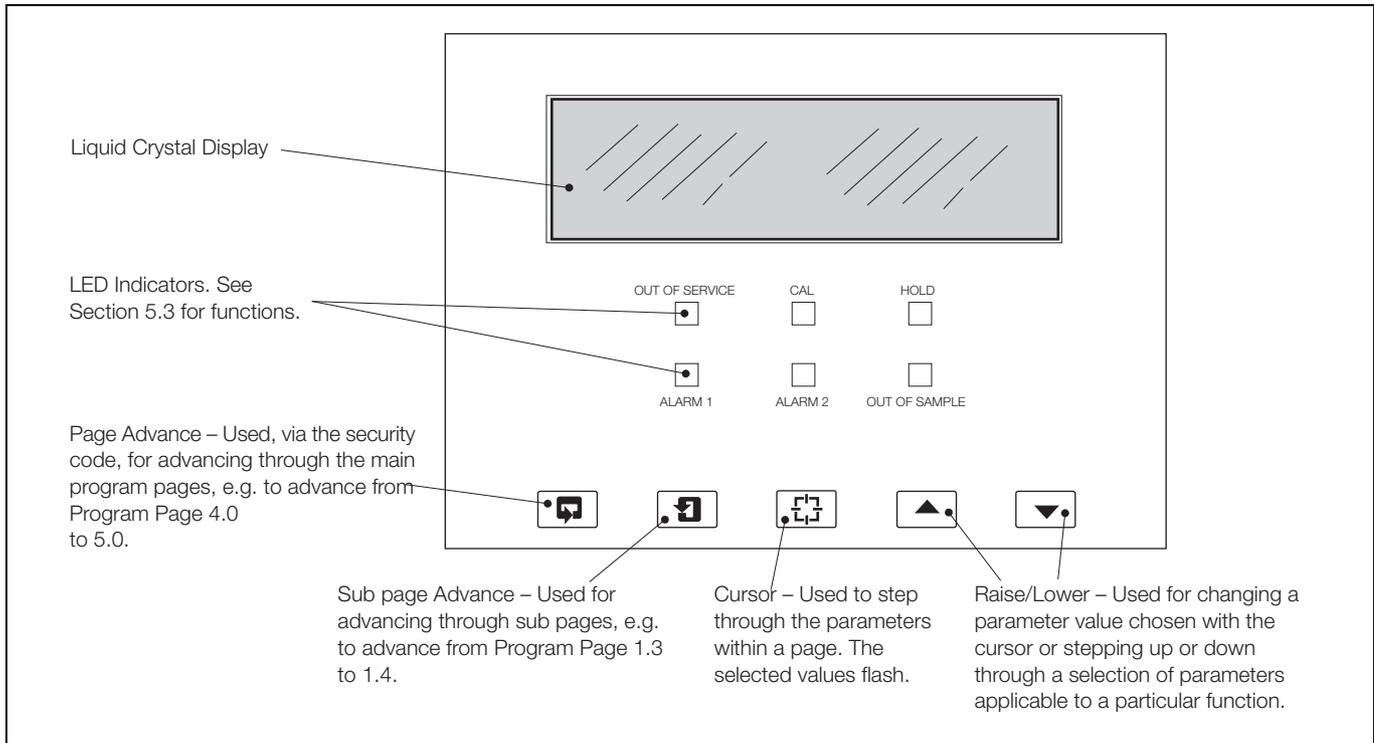

Fig. 5.1 Front Panel Controls – Single Stream
5.1 Front Panel Controls – Figs. 5.1 and 5.2
Switch functions are described in Fig. 5.1.